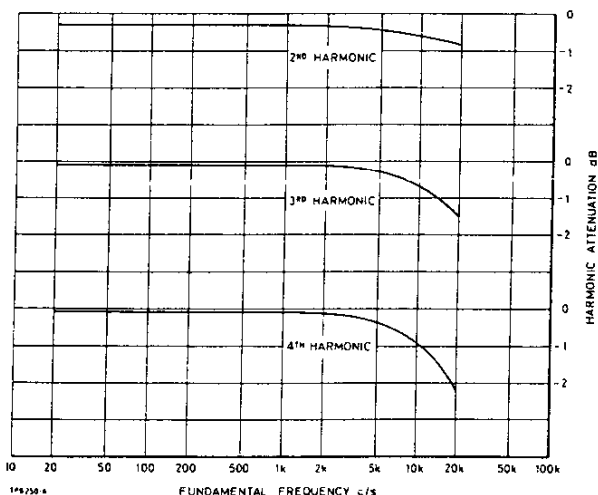
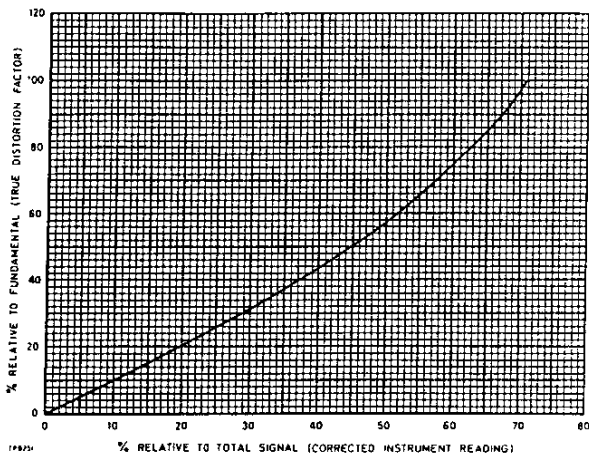

Fig. 2.9 Attenuation of Harmonics (100 kc/s Bandwidth)
Fig. 2.11
Makes the reading low - see Fig. 2.9. The upper-frequency skirt of the fundamental rejection filter causes a slight attenuation of the lower order harmonics. Harmonics are also attenuated as their frequency approaches the 100 kc/s or 20 kc/s bandwidth limit; this is naturally more likely to affect the higher order harmonics.
As mentioned in Section 2.2 the Distortion Factor Meter measures distortion relative to total signal rather than relative to fundamental. Below 10% distortion the discrepancy is negligible but it becomes large at high distortion. Conversion from indicated to true distortion factor can be made by means of Fig. 2.11.
- (2) Fig. 2.9 shows reading is low by a further 0.3 dB. Therefore, partially corrected reading = -11 to -10.8 dB (= 28 to 28.8%).
- (3) Error due to instrument residual content, i.e., an additional uncertainty of $\pm 0.025\%$ distortion, is negligible.
- (4) Metering error = $\pm 2\%$ of 30% (full-scale) $\pm 1\%$ of 28% = $\pm 0.88\%$, say $\pm 0.9\%$ distortion. Therefore, final corrected reading = 27.1 to 29.7%.
- (5) Formula conversion. The final corrected reading in terms of true distortion factor (relative to fundamental) is given by Fig. 2.11 as 28.5 to 31%.
If VT3 is replaced ensure that its gain is adequate or attenuation of second harmonics will be greater than that shown in Fig. 2.9.